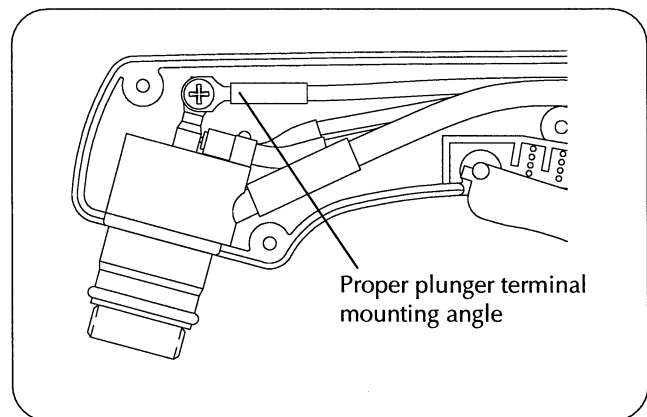

Figure 6 Plunger Terminal Angle
6. Attach the single plunger wire lead from the torch leads to the replacement torch main body using the plunger screw and nut supplied with the replacement torch body. Note: When connecting the plunger wire, be certain to keep the plunger wire terminal at the angle shown in Fig. 6. Tighten the plunger screw with 8 lb-in (9 kg-cm) of torque.